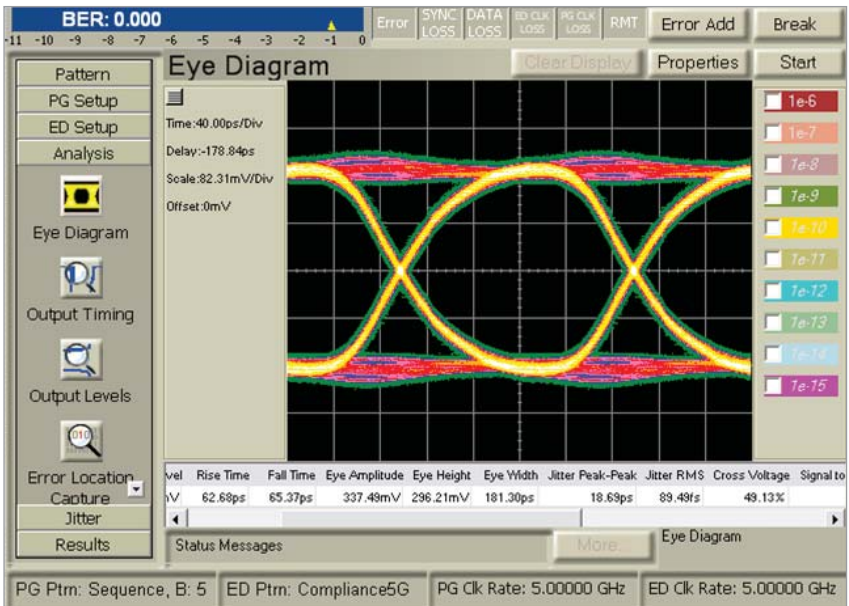

Figure 17. Eye diagram of the calibrated test signal measured with PCIe compliant CDR showing a differential eye height of 297 mV
- Adjust de-emphasis level such that eye diagram on the screen of the BERT only shows one high and one low level (see Figure 17); restart measurement after each change of de-emphasis-level)